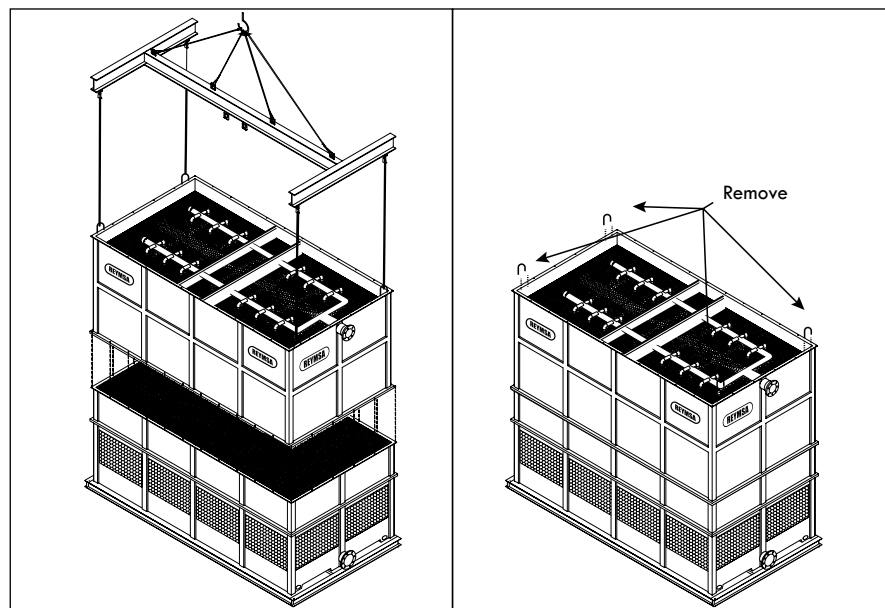

Figure A-50: Upper Body section installation for an RTG-D, RTG-E, RTGTC-G or RTGTC-H models.
- L. Assemble the body section (Upper Body section for RTG-D, RTG-E, RTGTC-G or RTGTC-H) with the basin section (Lower Body section for RTG-D, RTG-E, RTGTC-G or RTGTC-H). The body section comes assembled with u-bolts for lifting; then using a crane assemble both parts, use a drift pin to align bolt holes as the sections are being set (See figure A-50). Make sure that the hot water inlet, and the cold water outlet are on the same side of the Tower when assembled.
- M. After installing the body, remove the U-bolts before installing the Fan Deck (see Figure A-50).